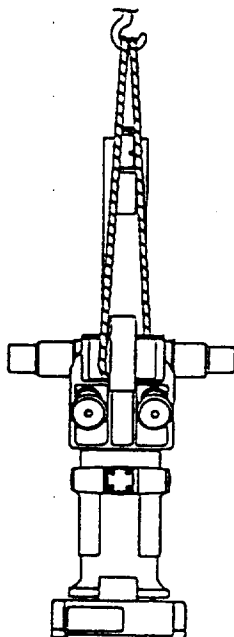

Figure 2-7
**N.B!** Under no circumstances must the lifting slings be attached to the arm of the robot when lifting, since this can damage the ball screw unit. The slings must be attached to axis 2 (B), according to Figure 2-7.
- 1) Wrap a lifting strap around the robot, as shown in Figure 2-7.